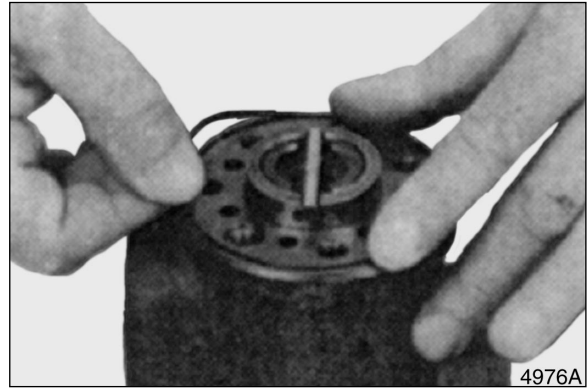

Figure 46
16. Install threaded bushing into hole that ball was placed into. See Figure 46. Lightly tighten bushing. The top of the bushing must be lower than the surface of housing.